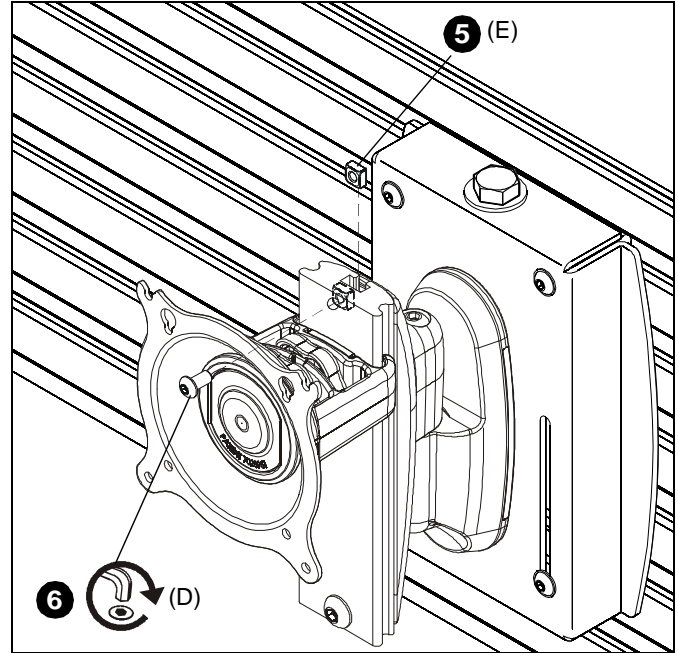

Figure 10
- Install 1/4-20" square nut (E) into the top of the back groove of wall mount (C) and line up with top hole on plate. (See Figure 10)
- Install 1/4-20 x 1/2" button head cap screw (D) into upper hole on wall mount and through square nut (E). (See Figure 10)